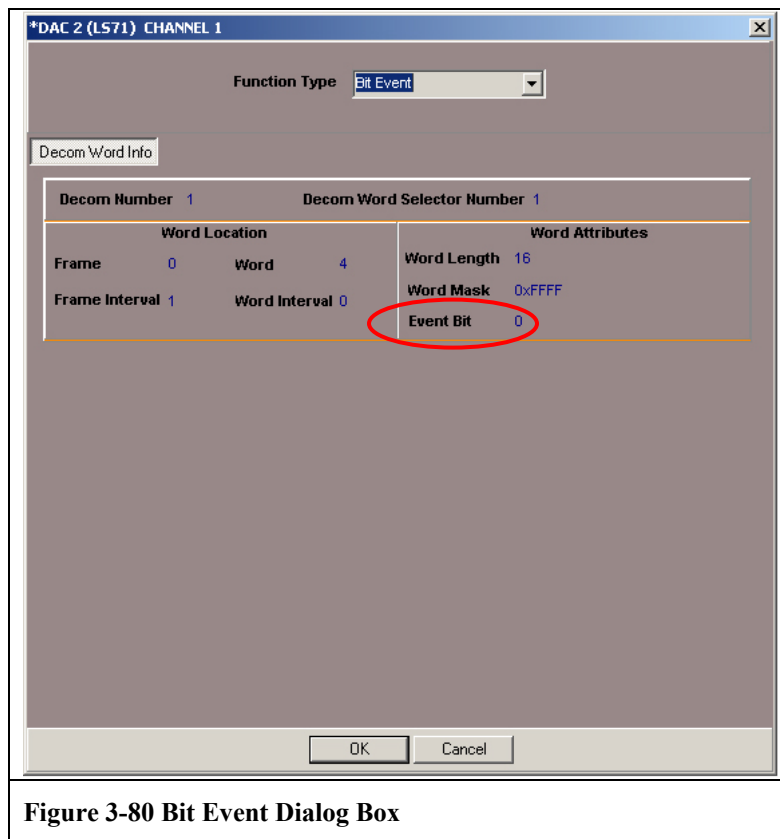

Figure 3-80 Bit Event Dialog Box
The Bit Event dialog box is shown in Figure 3-80 below. When the Bit Event function type is selected, the Event Bit field is added to the Word Attributes area as indicated below via the red oval. The Bit Event function is a simple method to deflect the channel to  $\frac{3}{4}$  scale if a specific bit is set to TRUE (1). To select the bit number that will trigger the event, right click in the Word Attributes area and select Event Bit from the list. Enter the bit position in the resulting dialog box and click OK.